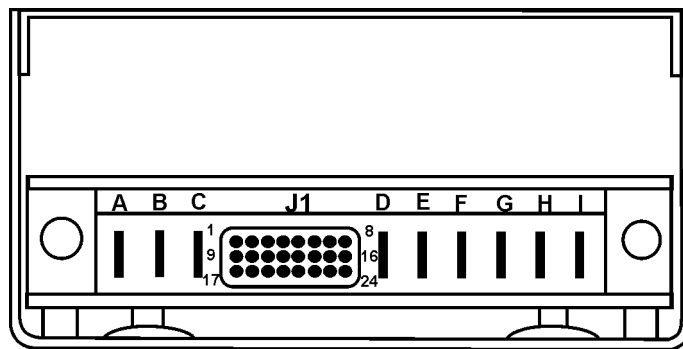

Figure 8. Module Rear View Showing Hot-Swap Connector
12.1 Module Connections. Connections to a hot-swap module are made to J1, an ELCON FLATPAQ high-reliability connector. See Fig. 8.